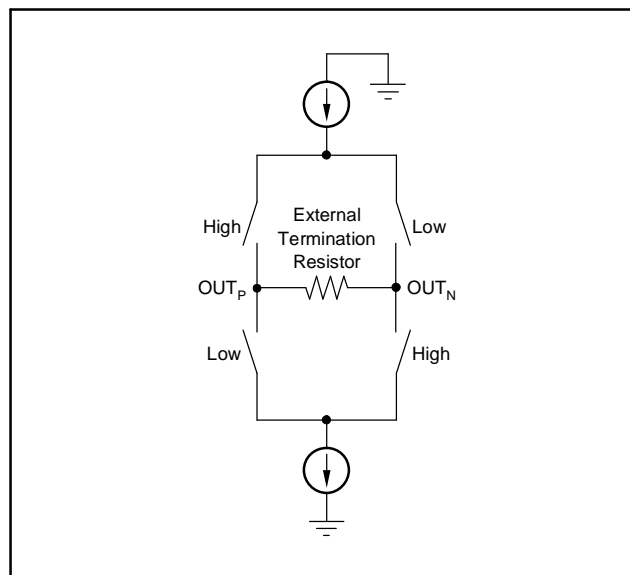

Figure 18. LVDS Buffer
The LVDS buffer has two current sources, as shown in Figure 18. OUT_P and OUT_N are loaded externally by a resistive load that is ideally about 100 Ω . Depending on whether the data is 0 or 1, the currents are directed in one direction or the other through the resistor. The LVDS buffer has four current settings. The default current setting is 3.5mA, and provides a differential drop of about \pm 350mV across the 100 Ω resistor.
- Changed Figure 18. 19